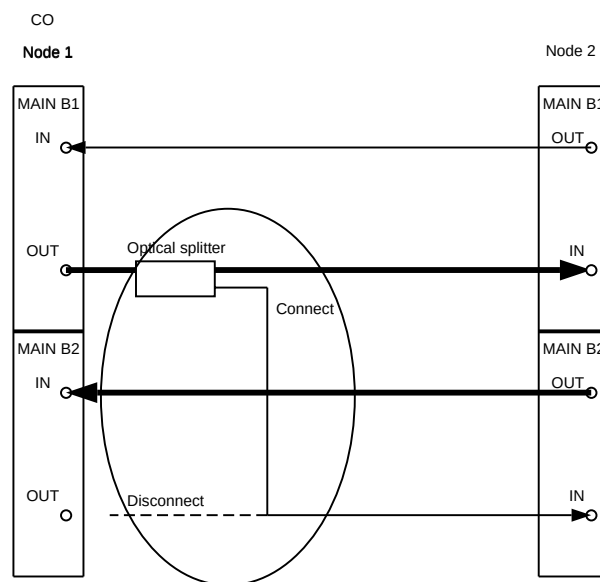

Figure 4. DDM-2000 OC-12 Point-to-Point Network to Ring Upgrade
10. At Node 1, remove optical fiber from **OLIU MAIN-B-2 OUT** and connect it to the other output of the optical splitter. (See Figure 4.)